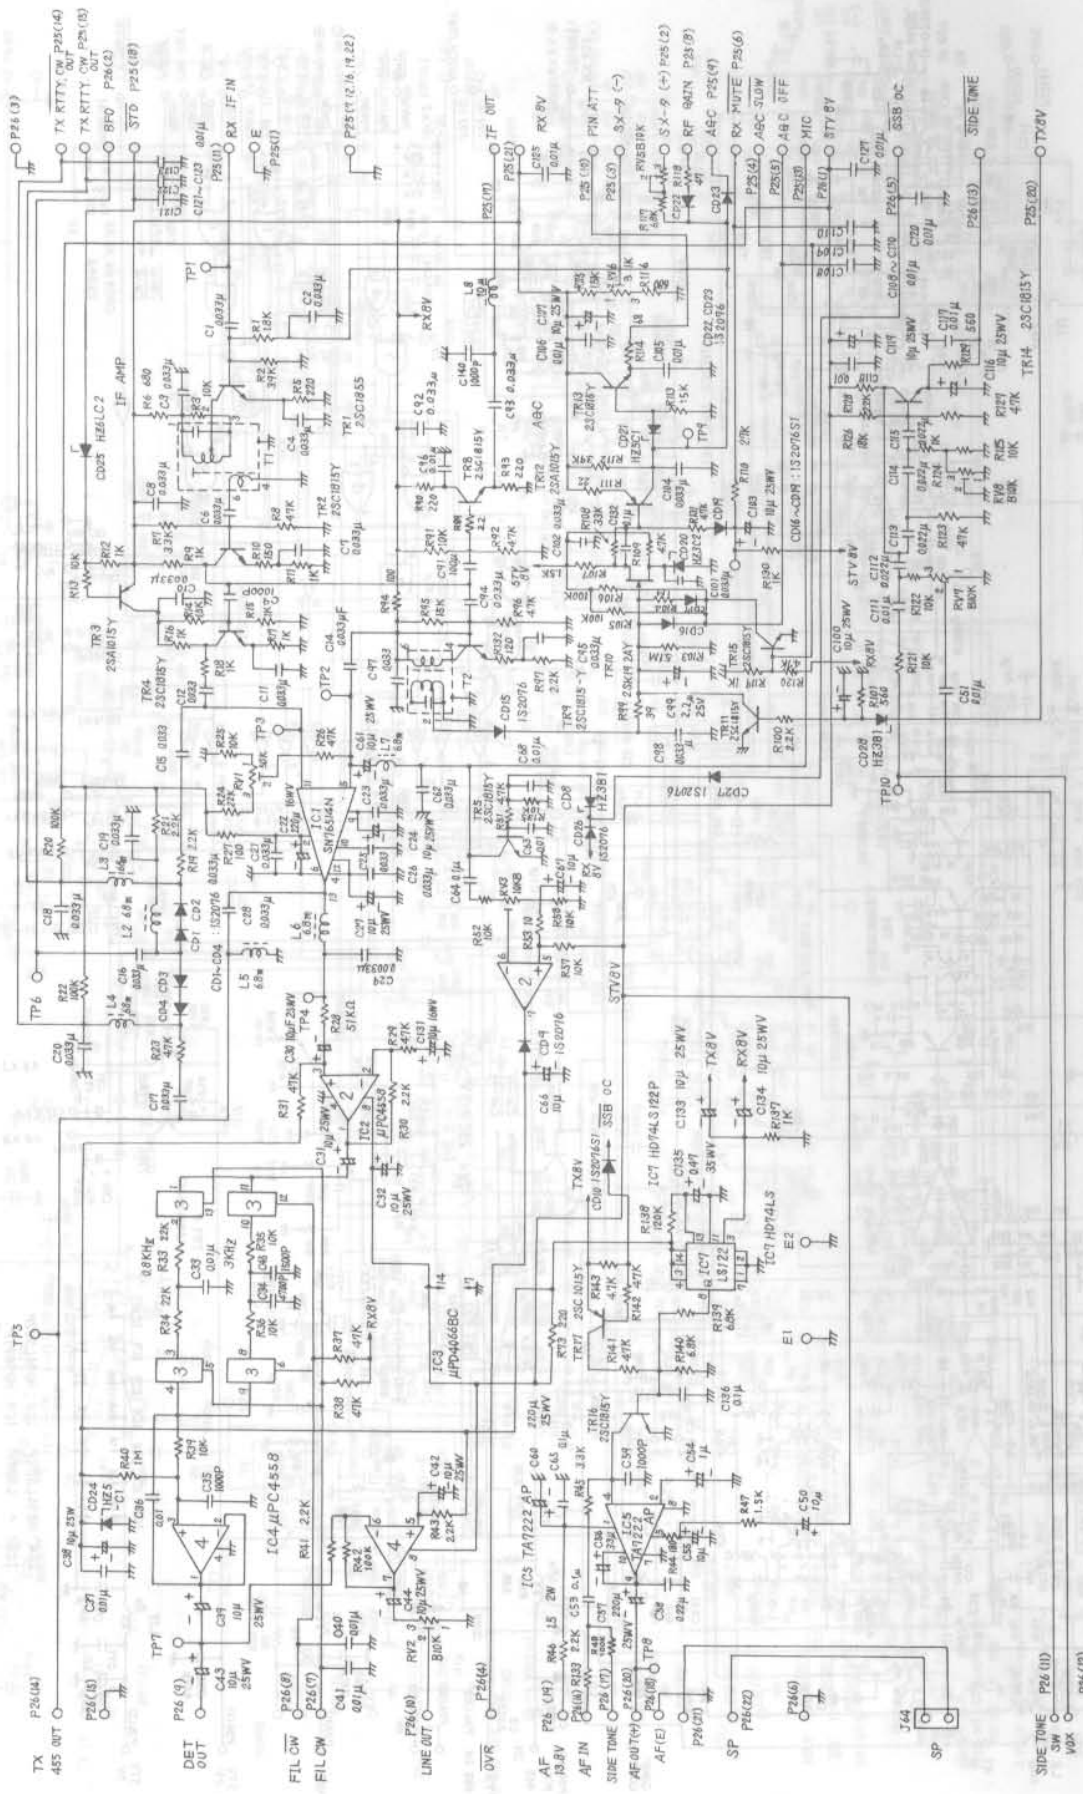

FIGURE 7.5 CAB-259 AF AMP UNIT CIRCUIT DIAGRAM
- FIGURE 7.5 CAB-259 AF AMP UNIT CIRCUIT DIAGRAM